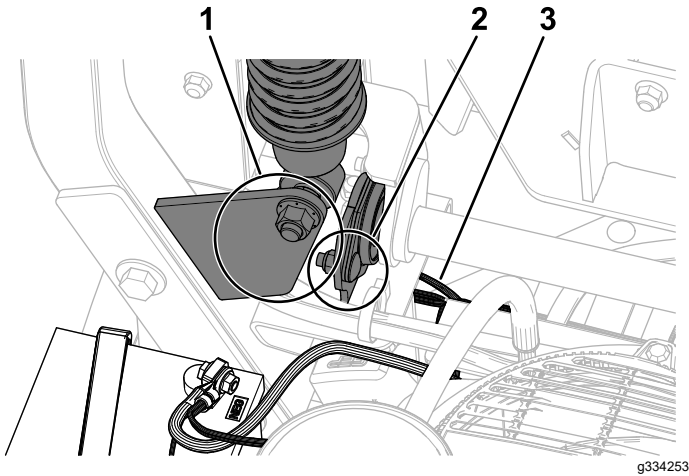

Figure 69
**Note:** For MyRide machines, ensure that the ground cable does not rub against the trailing arm or lower shock mount (Figure 69).